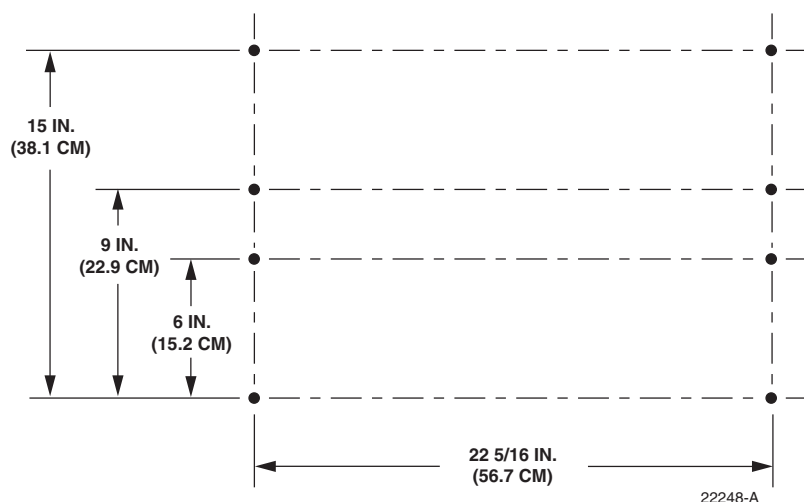

Figure 7. Hole Locations For Wall-Mount Installation
3. Using Figure 7 as a guide, mark the location of the cabinet mounting holes on the plywood backer.